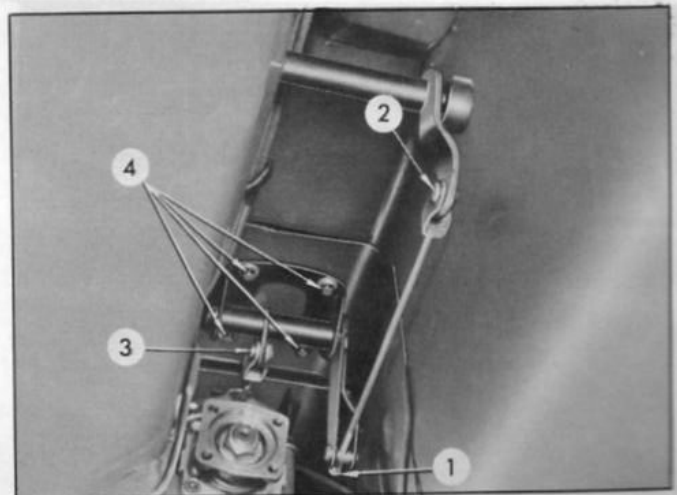

Fig. BR-34 Removal of hand brake
4. Remove four bolts ④ (shown in the Figure BR-34), and remove the center arm assembly from the floor.
5. Remove the front rod end and attaching bolt ①, and remove the control lever toward the passenger's compartment.
**Note:** When removing the control lever, first, remove the right side seat. The boot is secured with four fasteners ②.